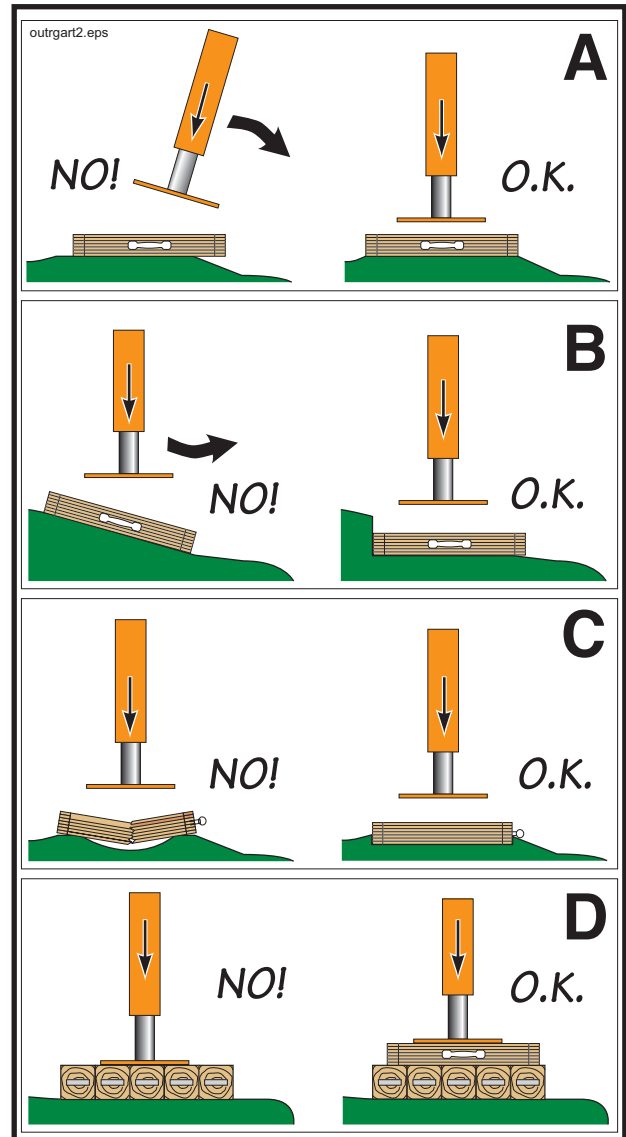

Figure 31
⚠ WARNING Tipping hazard! Take care when setting the outriggers (Figure 31). Never set up on uneven or hilly soil or try to bridge a hole with cribbing. In these cases, you could dig a flat spot in the soil (A, B, & C). Be sure that the outrigger pad contacts all pieces of cribbing. Run cribbing in the opposite direction, if needed (D).